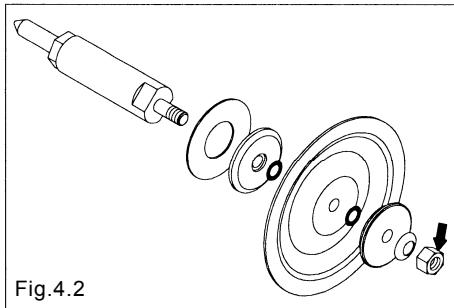

Fig.4.2
- Pull out the diaphragm, center disk and center rod from the main body. [Fig.4.2]
- Remove the nut, and remove the center disk, diaphragm and O ring (□T, 10□C, 10□N) from the center rod. [Fig.4.2]